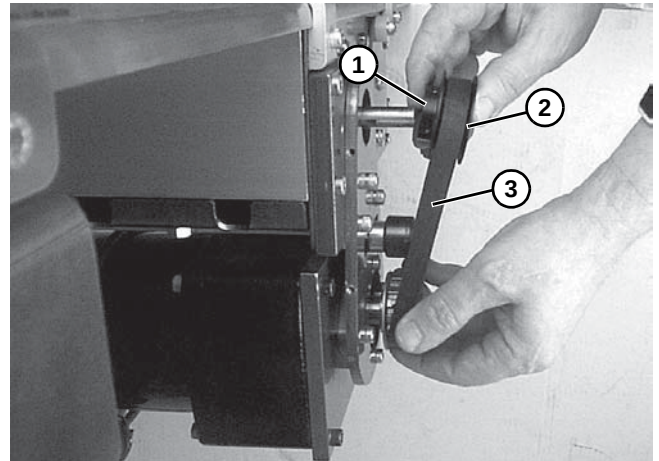

Figure 24
If the timing belt does not slide over the pulley flange, loosen the driven pulley set screws (**Figure 24, item 1**) and remove the pulley (**Figure 24, item 2**) with the belt (**Figure 24, item 3**).